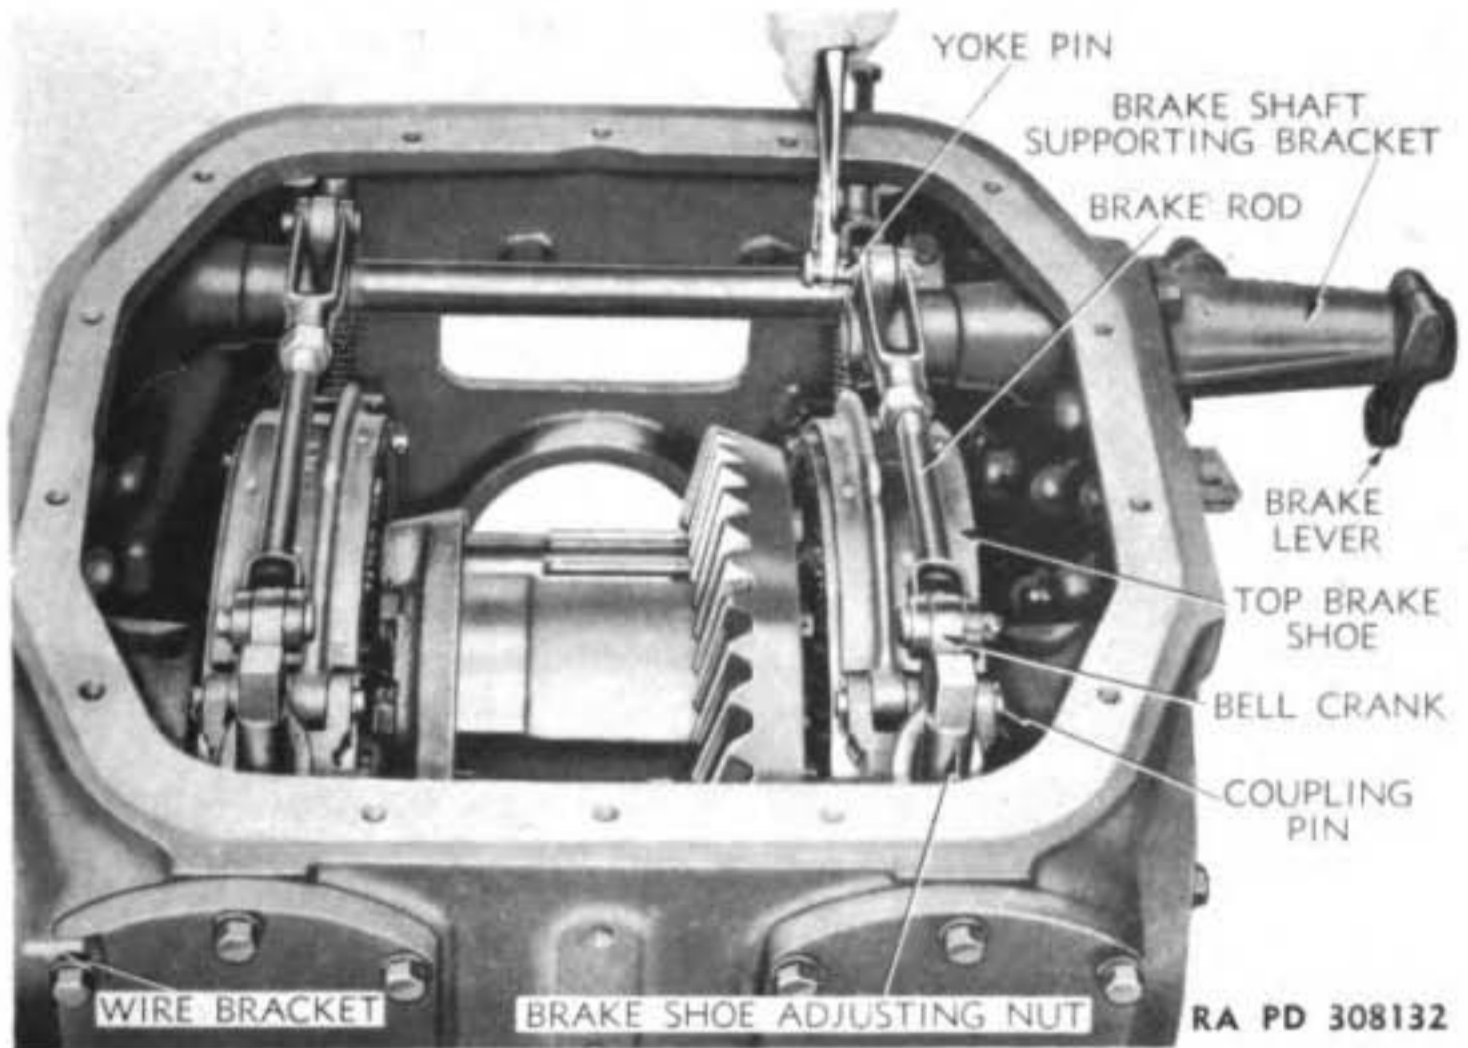
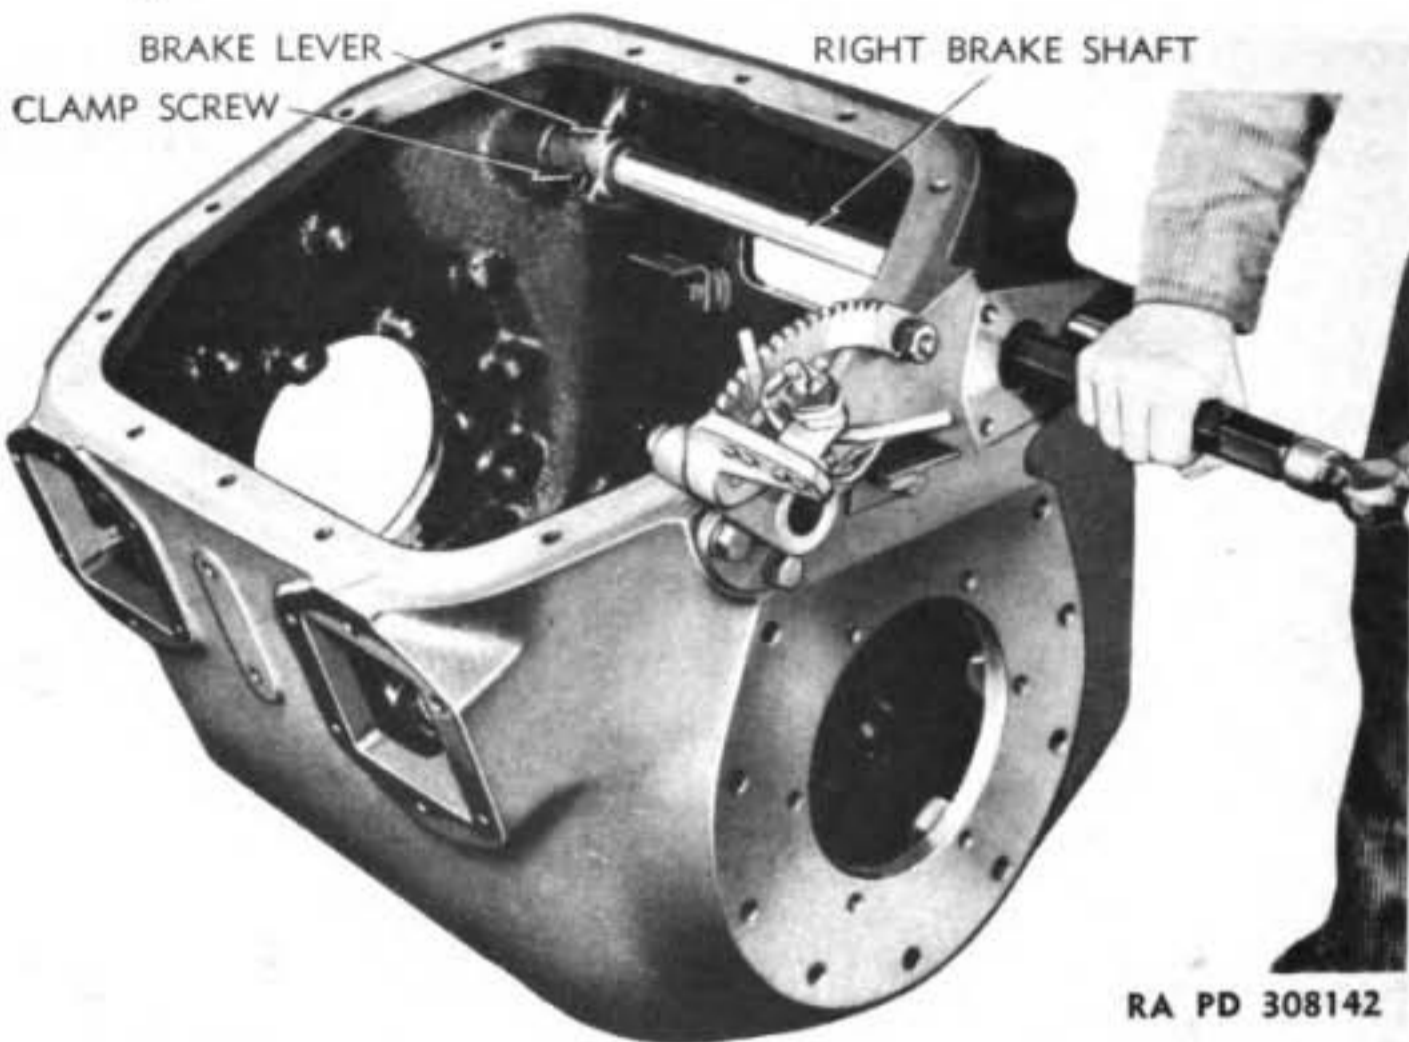

Figure 32 – Disconnecting Steering Brake Rod From Lever
Figure 42 — Removing Brake Shaft Bushing, Using Remover (41-R-2376-290)
a. Remove Brake Linkage. Pull cotter pins and end yoke pins and remove steering brake rods (fig. 32). Disconnect both ends of top brake shoes by removing coupling pins and remove both top shoes. Remove cotter pin and flat washer from outer end of each brake shoe and bell crank pin (lower pin in anchor) and remove these pins. Remove brake shoe adjusting nuts from brake shoe yokes. Remove the six attaching cap screws from each brake anchor, maneuver anchors to remove anchor pins from anchors and brake shoe
g. Remove Brake Control Shafts From Housing (fig. 42). Cut and remove lock wires in clamp screws in collar and lever on long shaft. Remove clamp screws from collar and lever. Remove pipe plug from housing at end of long control shaft (fig. 34). Remove clamp screw, then tap lever off outer end of shaft (fig. 32). Remove